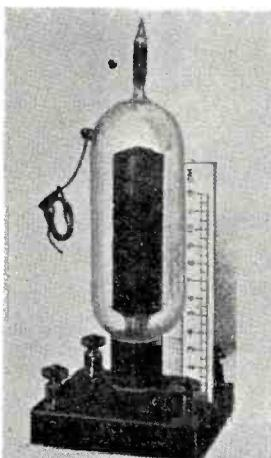
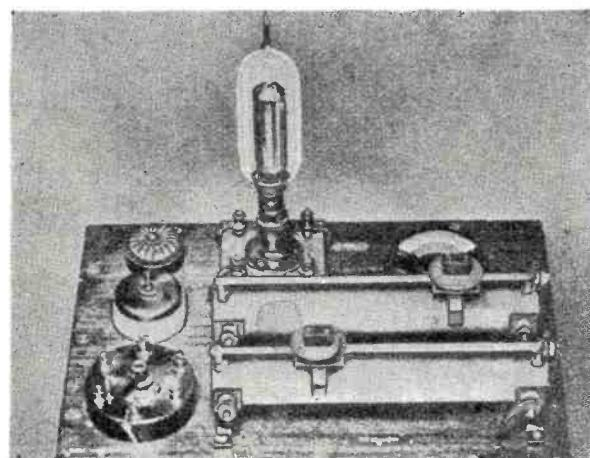

Fig. 186.
Fig. 187.
ber of these were produced in the laboratory. They were somewhat larger than the original Round tubes, in order to handle the necessary power. Fig. 186 is a photograph of one of these tubes, the first type to be used in telephone service in England. Fig. 187 shows the repeater unit in which it was used. The essential features of this type of tube are (1) the cathode is of the Wehnelt, or oxide-coated, type; (2) the grid is a fine mesh completely surrounding the filament; (3) the anode is a cylinder surrounding the grid; and (4) there is a tubulation containing a wad of asbestos extending upward from the top of the bulb. This grid construction was adopted to prevent electrification of the inner surface of the glass bulb by electrons expelled from the filament, and the asbestos in the tubulation was used as a source of gas to restore the pressure when the tube became hard. The asbestos gave off small quantities of gas when heat was applied externally to the tubulation.